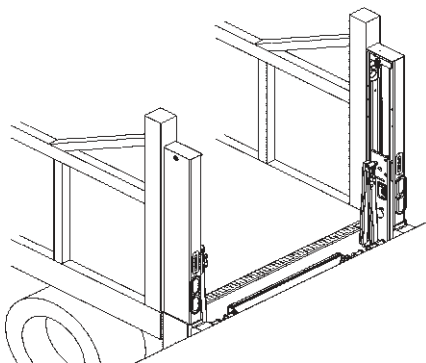

FIG. 31-2
3. Back up vehicle to dock (**FIG. 31-2**). Now loads can be moved between dock and vehicle.